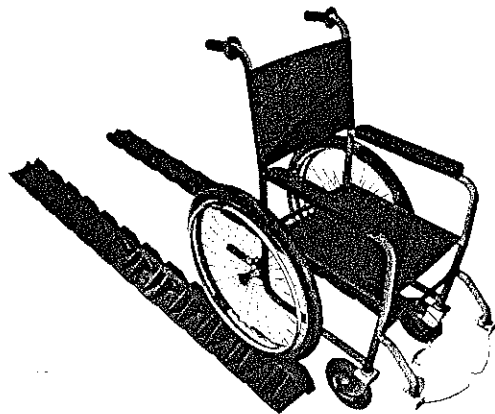

Figure 1 – Tracks laid out on ground
2. The wheelchair is then placed on top of the track so that the rear wheels sit into the locating groove (Figure 1)